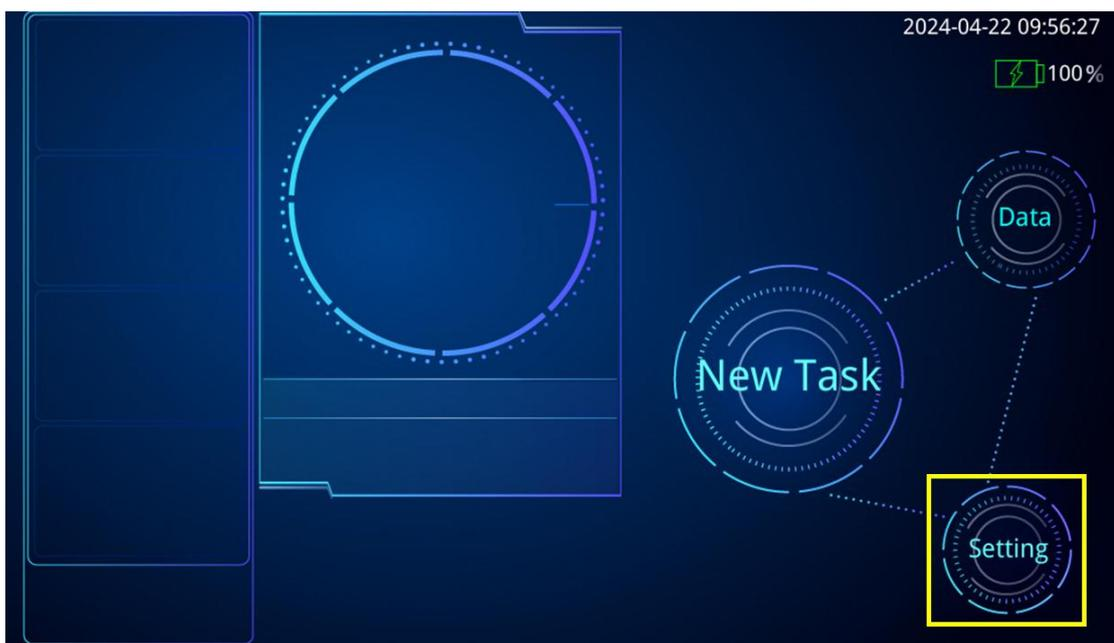
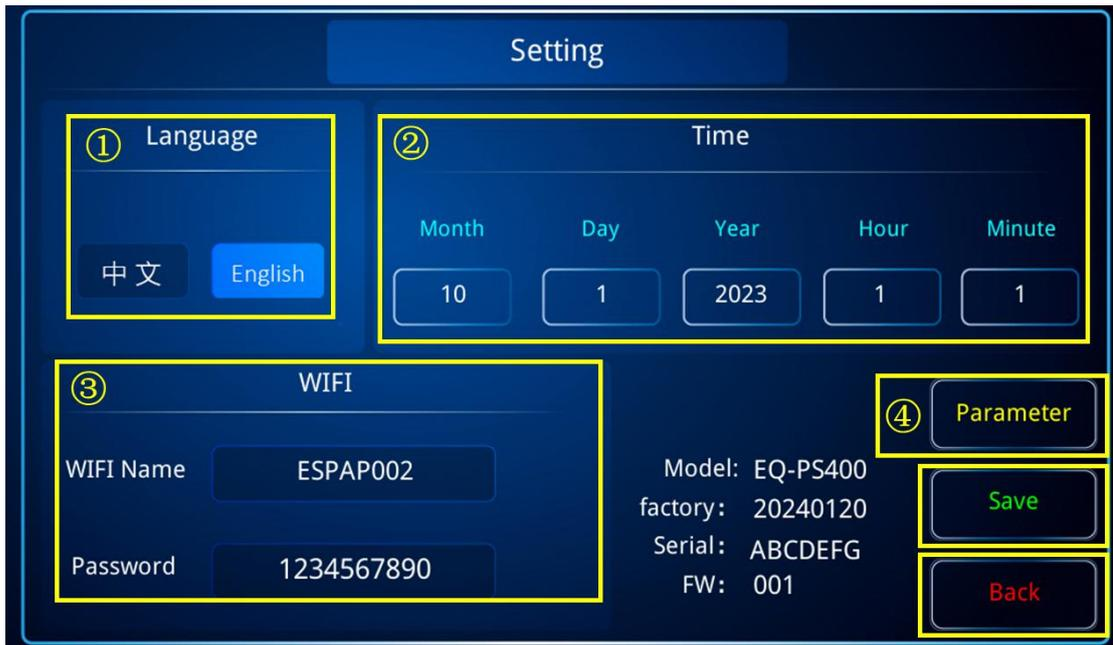

Figure 4 “Setting” icon on the Main Page
Figure 5 Setting Page
Turn on the TVS Pro4 Animal Pathogen Analyzers by switching the Power-On Switch on the left side of the instrument (Figure 3 ②). Click "Setting" on the Main Page (Figure 4) to access the Setting Page (Figure 5). On the Setting Page, you can:
1. Choose the language using the touch screen (Figure 5 ①).
2. Set up the date and time using the touch screen (Figure 5 ②).
3. Connect to the instrument's Hotspot by searching for and selecting the "WIFI Name" and inputting the password shown on the screen (Figure 5 ③).
4. Change the parameters of a test by clicking "Parameter" on the screen (Figure 5 ④). This setting requires administrator authorization from Trending. Please contact Trending Technical Support or your local service representative for administrator authorization.